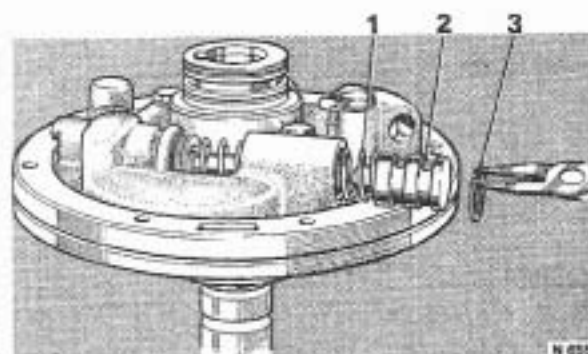

FIG. T225 REMOVING THE REGULATOR VALVE RETAINING CIRCLIP
- 3. Compress the regulator boost valve, against spring pressure, then remove the circlip (see Fig. T225).